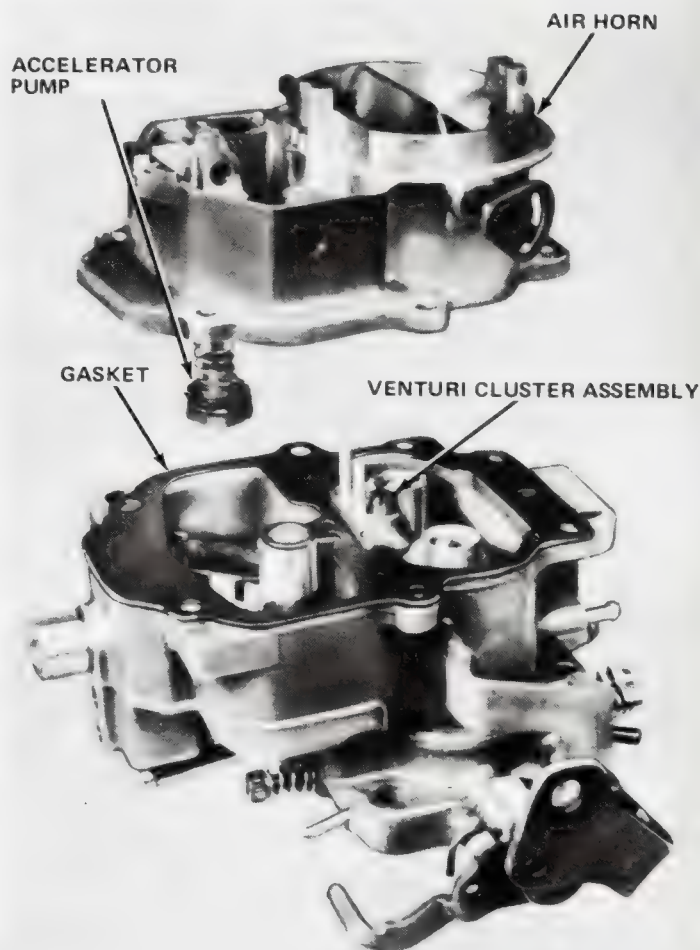

Fig. 1J-75 Removing Air Horn
(6) Disconnect clips and remove link from choke housing lever and choke lever.
(7) Remove screw and lever from choke shaft.
(8) Remove vacuum hose between carburetor main body and choke vacuum diaphragm. Remove choke diaphragm, linkage and bracket assembly. Place diaphragm aside to be cleaned separately.
(9) Remove fast idle cam retaining screw. Remove fast idle cam, linkage and clip.
(10) Remove choke housing cover, retainers and screws. Remove gasket and baffle.
(11) Remove choke housing from throttle body.
(12) Remove air horn retaining screws and lift air horn straight up away from main body. Remove solenoid, if equipped. Discard gasket (fig. 1J-75).